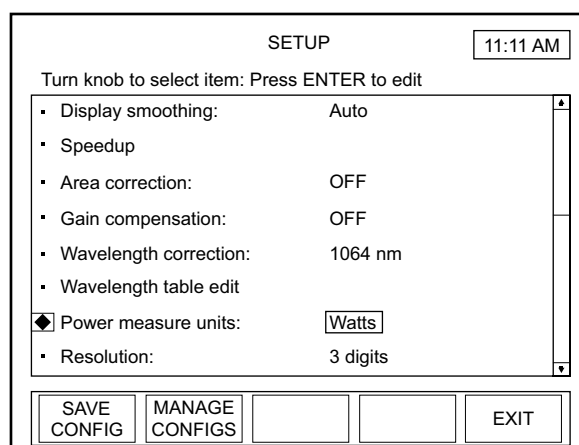

Figure 4-48. SETUP: Power Measure Units
2. Press the ENTER/SET button to highlight the value field (Figure 4-48).